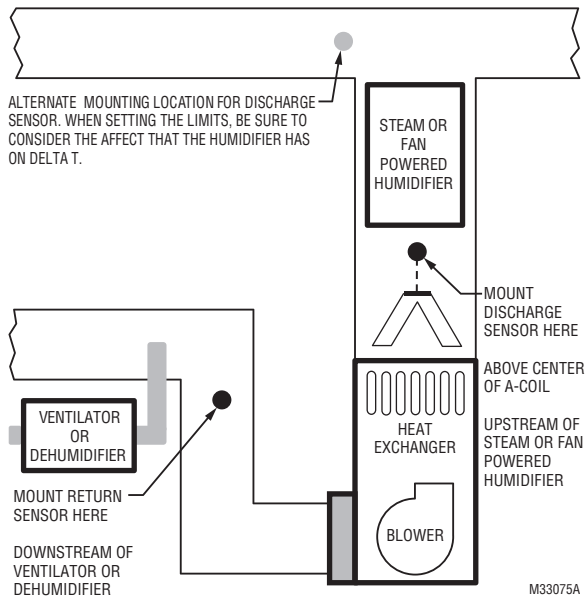

Fig. 6.
2. When possible, mount the Discharge Air Temperature Sensor upstream of a Steam Humidifier, a Fan Powered Humidifier or a Dehumidifier that is ducted to the supply. See Fig. 6–7.
3. If space does not allow a Discharge Air Temperature Sensor upstream of a Steam Humidifier or Fan Powered Humidifier, mount the Discharge Air Temperature Sensor downstream of the Humidifier. See Fig. 6. When setting the Delta T Limits (see “Set Delta T Limits” on page 53), be sure to consider the affect that the humidifier has on Delta T.